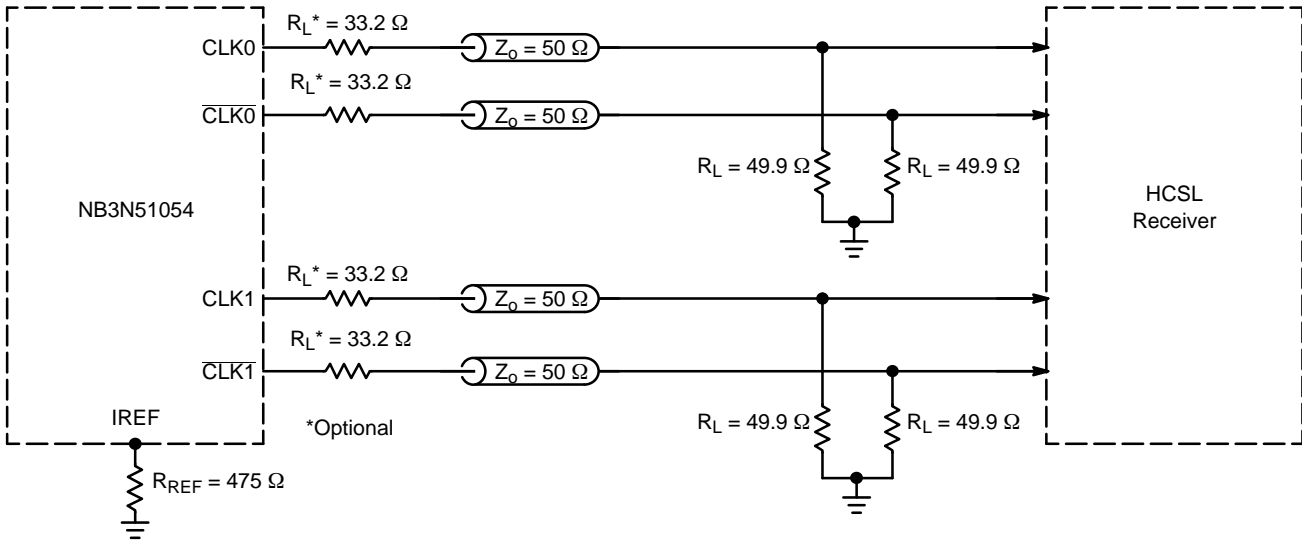
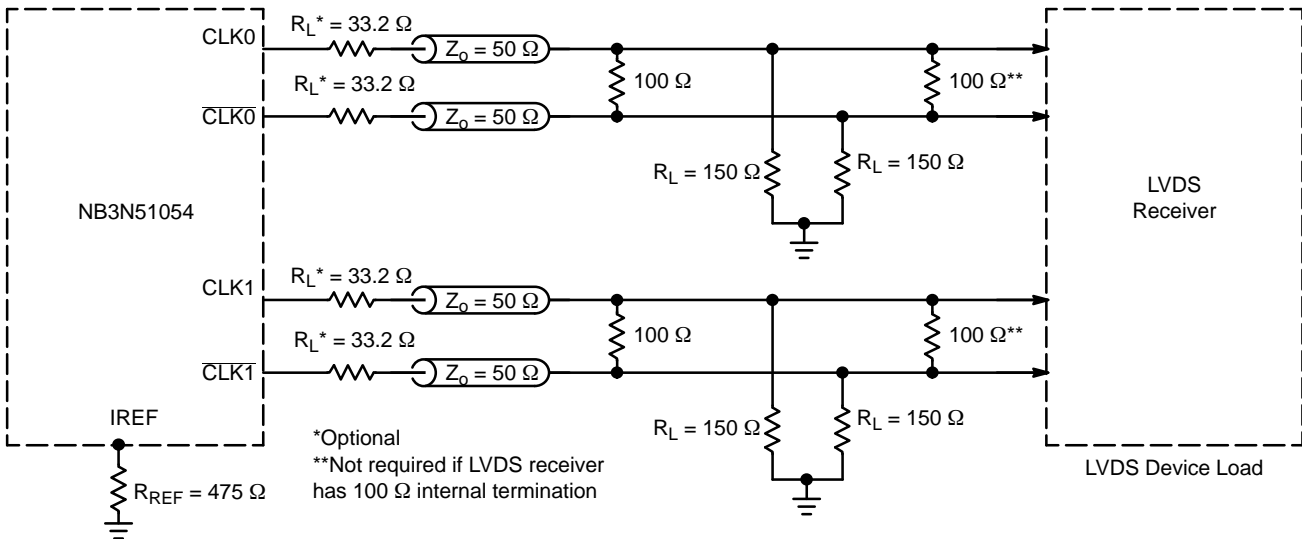

Figure 6. Typical Termination for HCSL Output Driver and Device Evaluation
Figure 7. Typical Termination for LVDS Device Load
- Measurement taken with outputs terminated with $R_S = 33.2$ Ω, $R_L = 49.9$ Ω, with test load capacitance of 2 pF and current biasing resistor set at $R_{REF} = 475$ Ω. See Figure 6. Guaranteed by characterization.
9. Measurement taken from differential output on single-ended channel terminated with $R_S = 33.2 \Omega$, $R_L = 49.9 \Omega$, with test load capacitance of 2 pF and current biasing resistor set at $R_{REF} = 475 \Omega$. See Figure 6. Guaranteed by characterization.
14. Measurement taken from differential output on single-ended channel terminated with $R_S = 33.2\ \Omega$, $R_L = 49.9\ \Omega$, with test load capacitance of 2 pF and current biasing resistor set at $R_{REF} = 475\ \Omega$. See Figure 6. This parameter is guaranteed by characterization. Not tested in production
The outputs can be terminated to drive HCSL receiver (see Figure 6) or LVDS receiver (see Figure 7). HCSL output interface requires 49.9 Ω termination resistors to GND for generating the output levels. LVDS output interface may not